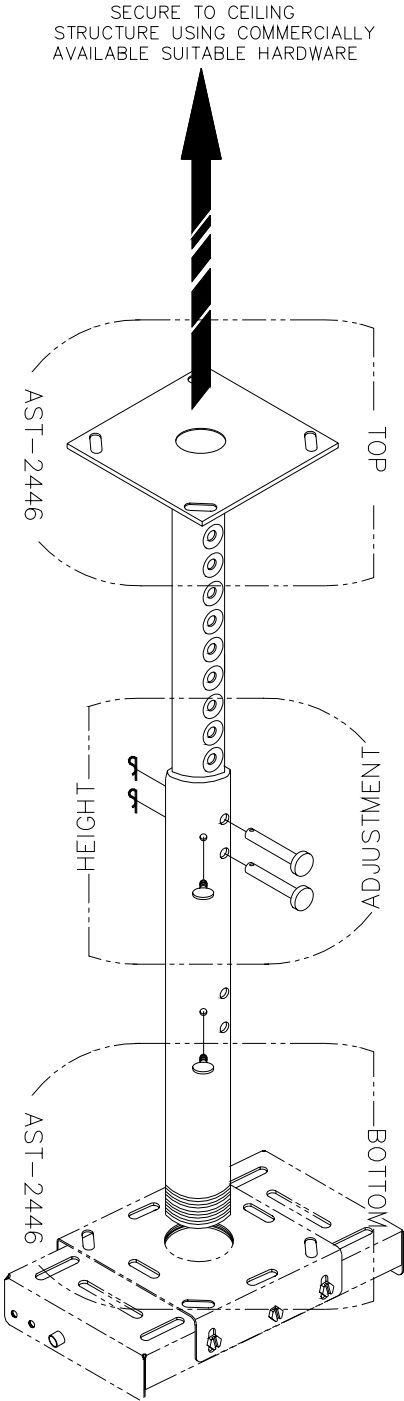

Figure 2
2. Once the upper pipe has been properly secured to the ceiling structure. Screw the base box or any ceiling adapters to the lower portion of the AST-2446 and secure it with the jam nut (supplied). Slide the lower tube to the secured pipe, adjust the desired height and lock with the two (2) height adjustable locking pins. Then screw in the three (3) thumbscrews to stabilize the pipes (Figure 2).